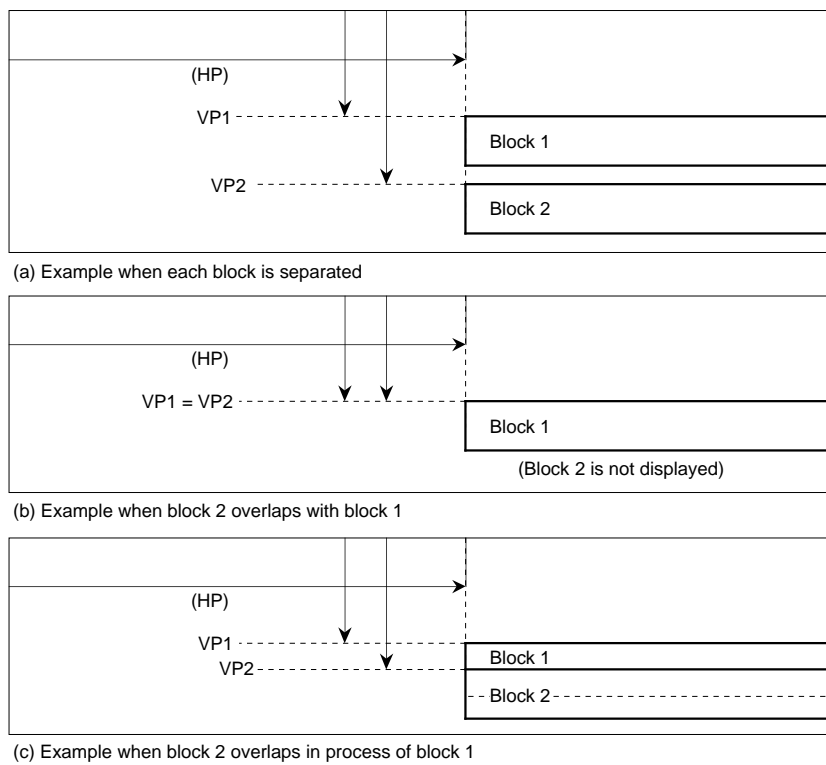

Fig. 57. Display Position
- ① When the display position of block 1 is overlapped with that of block 2 (Figure 57, (b)), the block 1 is displayed on the front.
- ② When another block display position appears while one block is displayed (Figure 57, (c)), the block with a larger set value as the vertical display start position is displayed.